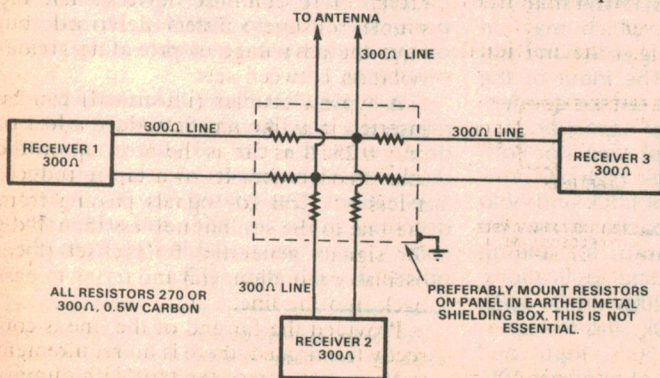

FIG. 2 FOR THREE RECEIVERS
In the case of Fig. 2, for example, the addition of two 300 ohm non-inductive resistors to the 300 ohm receiver input increases each line impedance to 900 ohms, but the three sub-circuits in parallel present a combined impedance of 300
*Fig. 2. Where three sets are to be used the losses to each will be greater but should not be serious in good signal strength areas. In marginal cases a better aerial may be needed.*